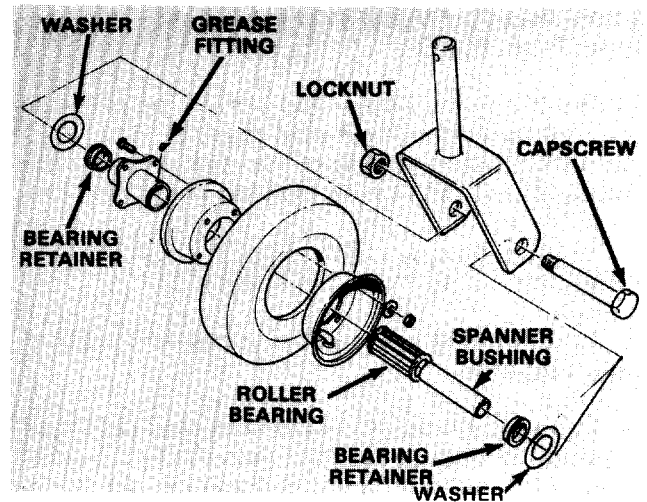

Figure 22
1. Remove locknut from capscrew holding castor wheel assembly between castor fork (Fig. 22). Grasp castor wheel and slide capscrew out of fork.
**Note:** Account for the two thrust washers (Fig. 22).
2. Tip wheel to the side and allow spanner bushing to fall out (Fig. 22).
6. Pump more grease through grease fitting on wheel (Fig. 22) until bearing is greased thoroughly.